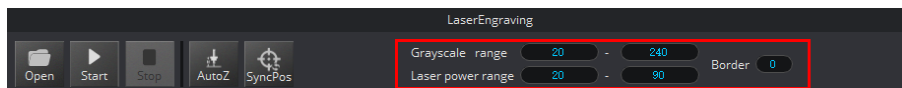

Figure 5.95 Set the grayscale range, laser power range, and border
Step 3 Set the **Grayscale range**, **Laser power range**, and **Border**, as shown in Figure 5.95. For details, see Table 5.11.